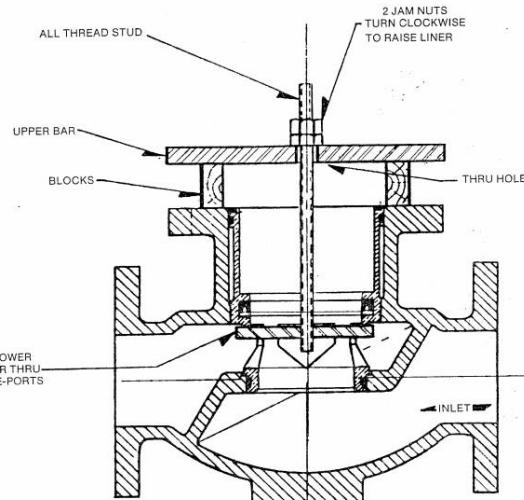

Figure 5
2. Remove the vent tube gland (23), packing (24) and unscrew the vent tube (22). DO NOT DAMAGE THE VENT TUBE SEALING SURFACE.
3. Reach inside the liner (3) through the V-ports and pull up while slightly rotating. In the unlikely event the liner cannot be extracted from the valve body in this manner, follow steps 3a through 3h. Otherwise, proceed to step 4.
- a. Refer to Figure 5.